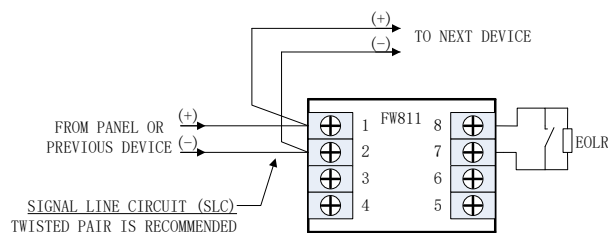

Figure 2. Wiring Diagram (SLC)
3. Connect the wires, see Figure 2. There is polarity sensitive between terminal 1 and terminal 2. All circuits are power-limited, and the maximum line impedance for input circuit is 25  $\Omega$